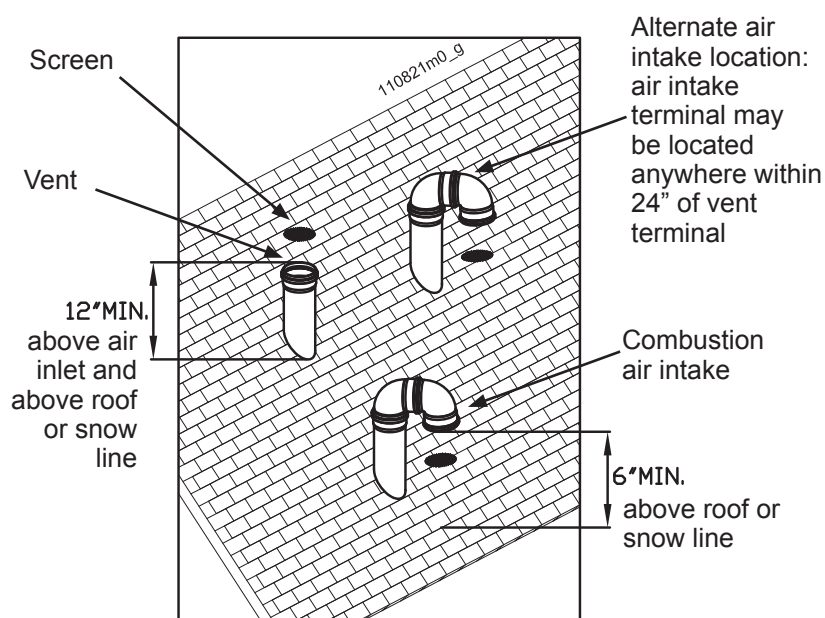

Figure 11-22 Two pipes vertical terminations of air and vent
3. Space the air and vent holes to provide the minimum spacing shown in Figure 11-22 and listed in Section 11.13.1.
1. Prepare the vent termination and the air termination elbow (Figure 11-22) by inserting bird screens.
2. The air piping must terminate in a down-turned 180° return bend as shown in Figure 11-22. Locate the air inlet pipe no further than 2 feet from the center of the vent pipe. This placement avoids recirculation of flue products into the combustion air stream.
3. Maintain the required dimensions of the finished termination piping as shown in Figure 11-22.
4. Do not extend exposed vent pipe outside of building more than shown in Figure 11-22. Condensate could freeze and block vent pipe.